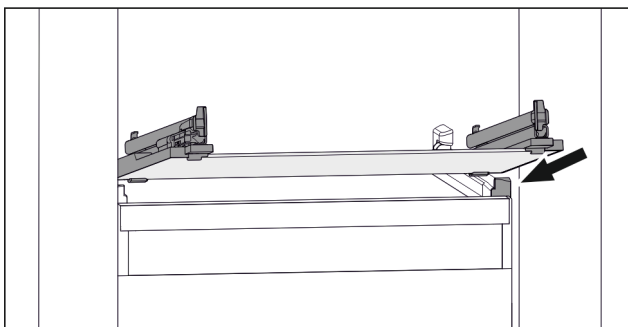

Fig. 147 Example illustration of glass shelf
- Position glass shelf at an angle behind the stoppers. (see *Fig. 147*)